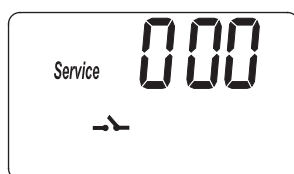
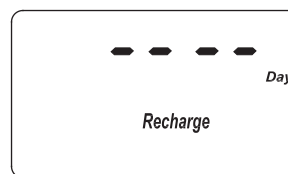
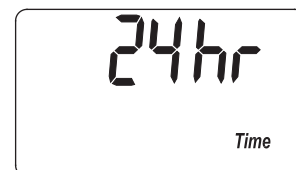

FIG. 27
FIG. 30
FIG. 31
1. Press and hold the PROGRAM button until the screen in Figure 27 is displayed. Once in this display, press the PROGRAM button twice and one of the two displays in Figure 28 is shown.
1. Press and hold the PROGRAM button until the screen in Figure 27 is displayed. Once in this display, press the PROGRAM button three times and the display in Figure 29 is shown.
1. Press and hold the PROGRAM button until the screen in Figure 27 is displayed. Once in this display, press the PROGRAM button four times and the display in Figure 30 is shown.
1. Press and hold the PROGRAM button until the screen in Figure 27 is displayed. Once in this display, press the PROGRAM button five times and one of the two displays in Figure 31 is shown.